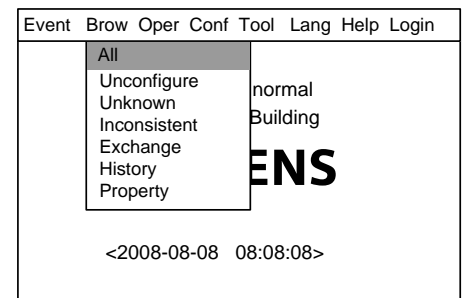
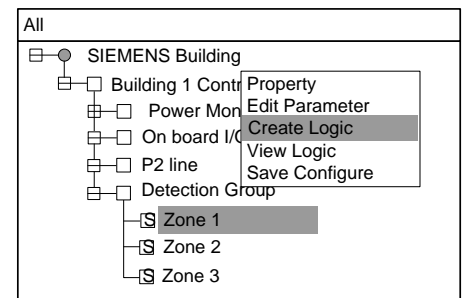
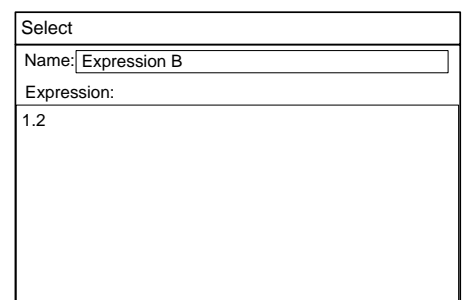

Fig.24-2
Fig.24-3
Fig.24-4
2. Press "→" to select "Brow" submenu (Fig. 24-2). Select "All" and then press "OK". Now the tree diagram will be displayed in the window (Fig.24-3). Press "↓"/"↑" to find out the group for which you want to build an interlock.
3. Press "→" to pop out the shortcut menu (Fig.24-3). Use "↓" to select "Create Logic" and press "OK" to enter the logic interface (Fig.24-4). The address of the group chosen is shown in the editing window automatically. Users can input an interlocking expression according to "Rules for editing interlocking" (see Appendix table 4).